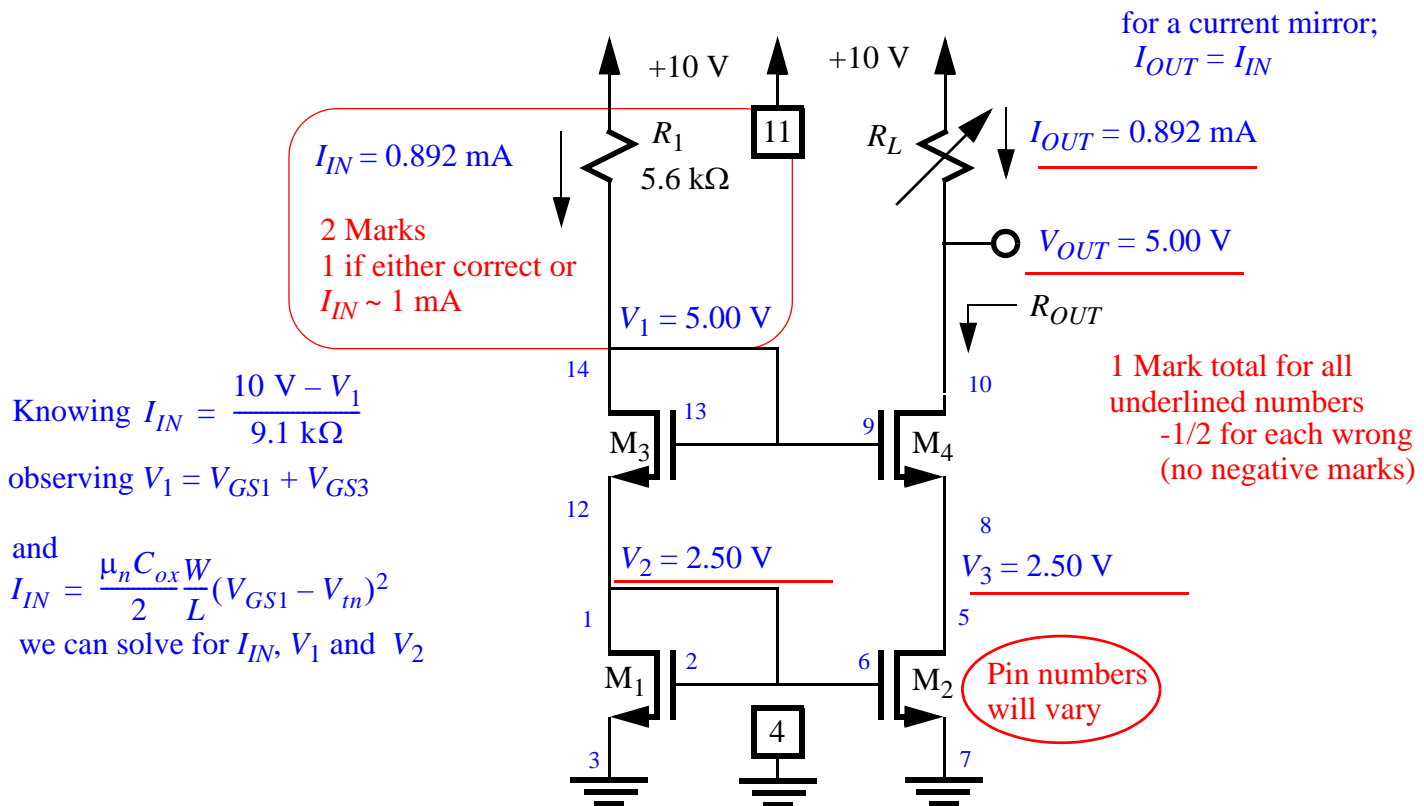

Figure 3) A cascode current mirror.
3. If R_L , in Fig. 3 equals R_1 :
- c) Determine pin numbers for the NMOS devices and enter them on the schematic of Fig. 3.